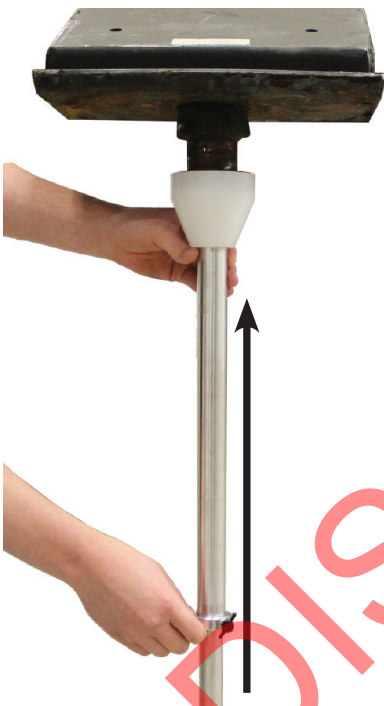

Fig.24
1. Loosen bracket and raise tube up to meet the kingpin/coupler (**Fig.24**).